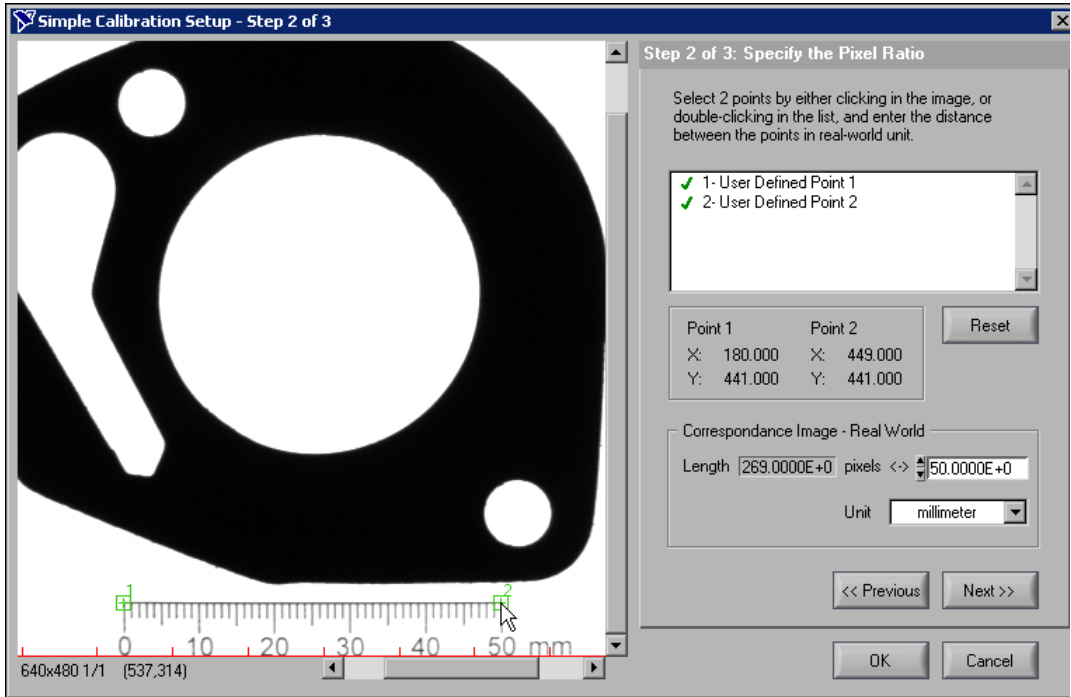

Figure 3-1. Specifying the Pixel Ratio
8. In **Step 2 of 3**, carefully click the 0 mm and 50 mm markings on the ruler in the image, as shown in Figure 3-1.